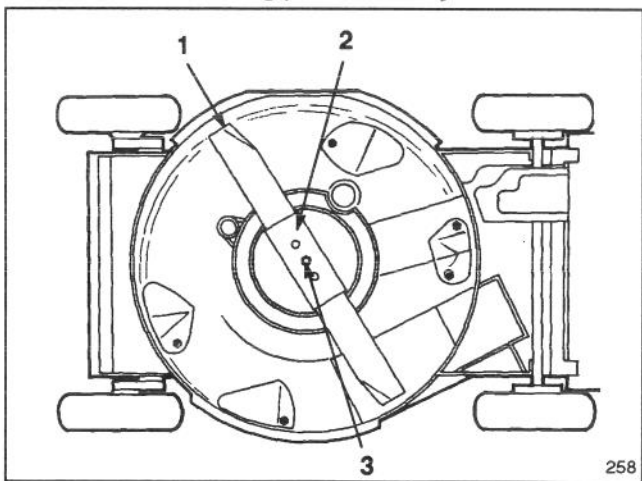

Figure 25
3. Tip mower on its right side (Fig. 25). Avoid rotating blade because starting problems may result.
**5. REMOVING BLADE**—Grasp end of blade using a rag or thickly padded glove. Remove blade bolt, lockwasher, blade stiffener and blade (Fig. 25).